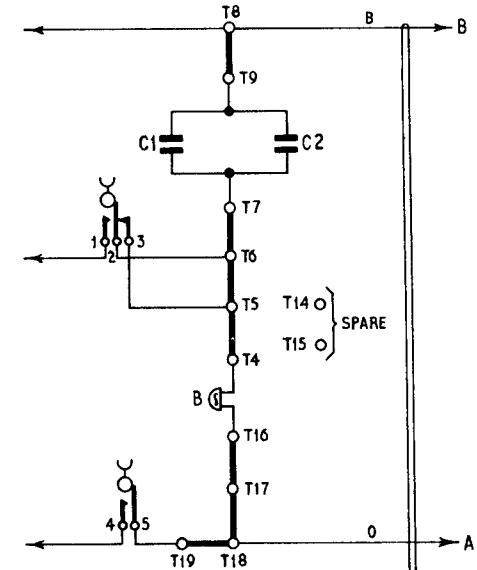

FIG.3. 2-WIRE PBX EXTENSIONS WITH RECALL
2-Wire P B X extensions with recall.	Fig 3
- A For 2-Wire external extensions using UAA No.96 or 96A wire the telephone to Fig.3, retaining the Strap T8-T9